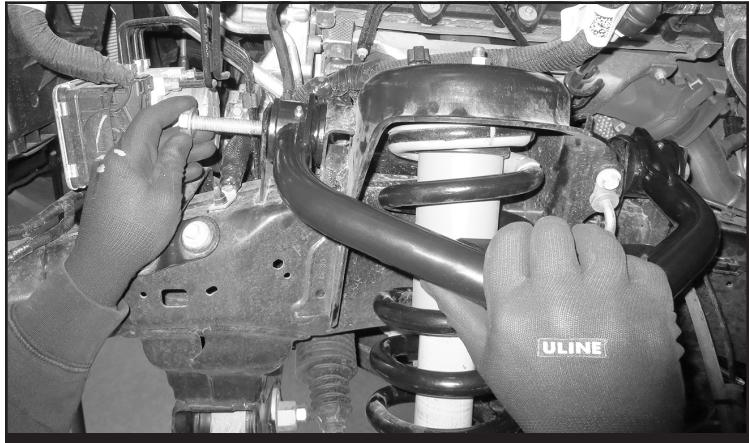

FIGURE 4 - STEP 5
5. Install the FT44550 (Driver) & FT44551 (Pass) upper control arms using the factory hardware. Leave loose at this time. **SEE FIGURE 4**